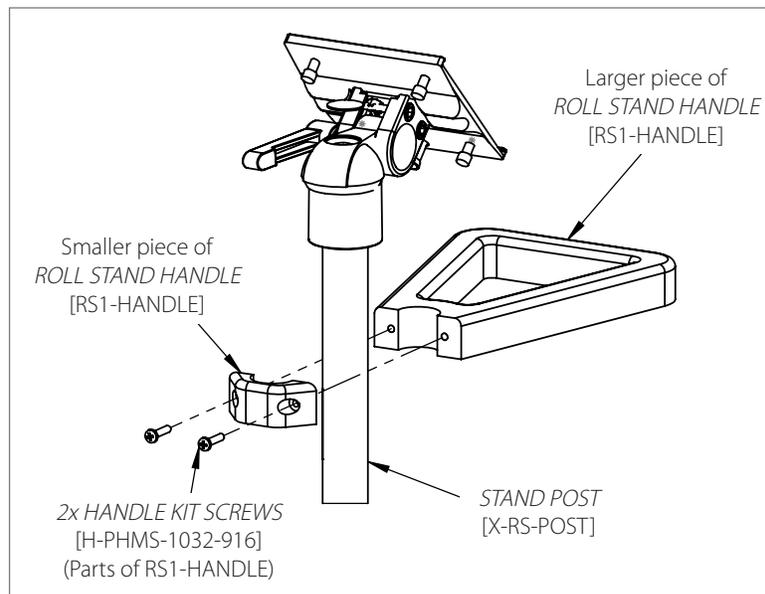

Figure 1
1. Once at desired height (typically 2" below the *POST ADAPTER*), place the *ROLL STAND HANDLE BACK PIECE* and *ROLL STAND HANDLE FRONT PIECE* around the *STAND POST*. Secure the *ROLL STAND HANDLE* in place by inserting the *HANDLE KIT SCREWS* through the back piece and tightening into the larger piece, using Phillips #2 head screwdriver (**Figure 1**).